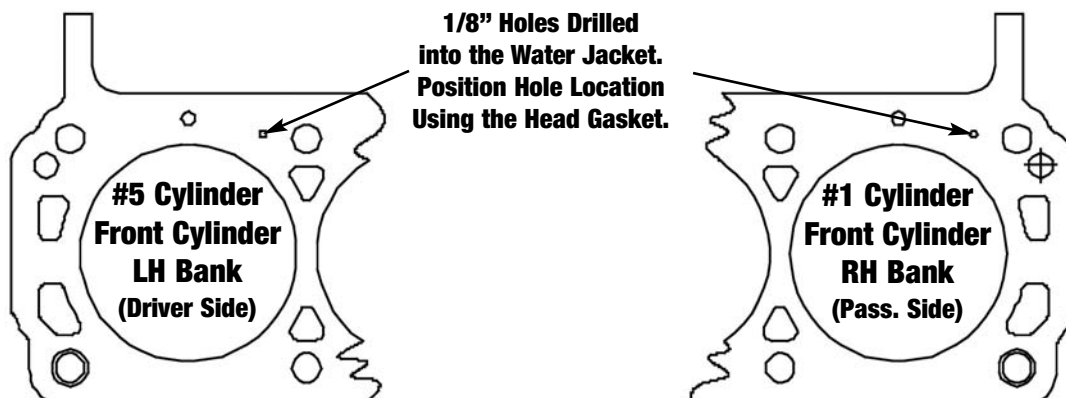

Figure 2 - Steam Hole Locations for Early 289 & 302 Engine Blocks
1. Check the upper deck to see if you have an early or late model block (not needed with 351-W): a) Late model 289-302 blocks have the water passages located next to the head bolt location on the deck of the block (This block **will not** require drilling). b) Early 289-302 blocks will have the water passages located directly over the cylinder upper deck area and will require drilling 1/8" steam holes as seen in Figure 2.